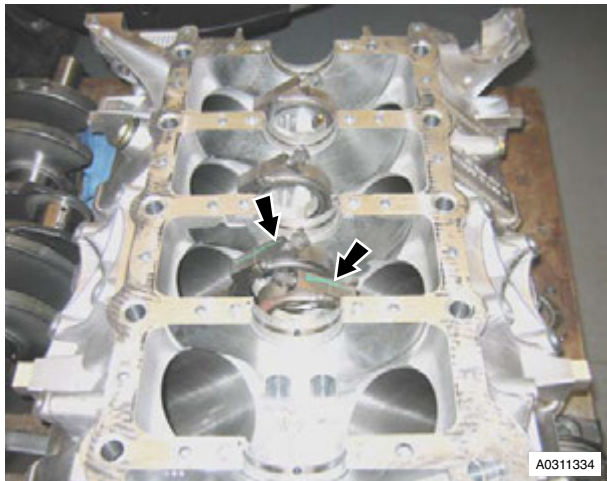

Figure 5
24. Remove main bearing shells (grooved) from cylinder block (see Figure 5).